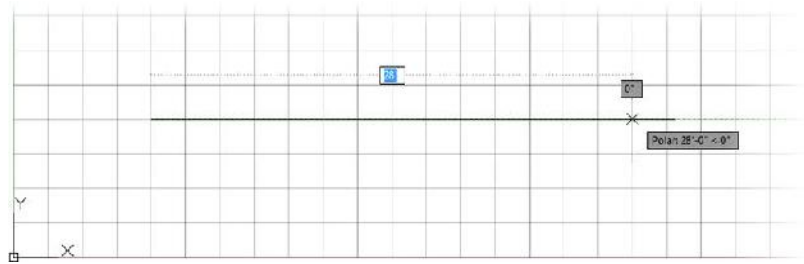

FIGURE 3.12: Setting the angle for the first line
6. Don't click yet. Hold the crosshair cursor directly out to the right of the first point picked, and note how the linear dimension displays a distance in 6" (50 mm) increments. The angular dimension should have an angle of 0.00, as shown in Figure 3.12.